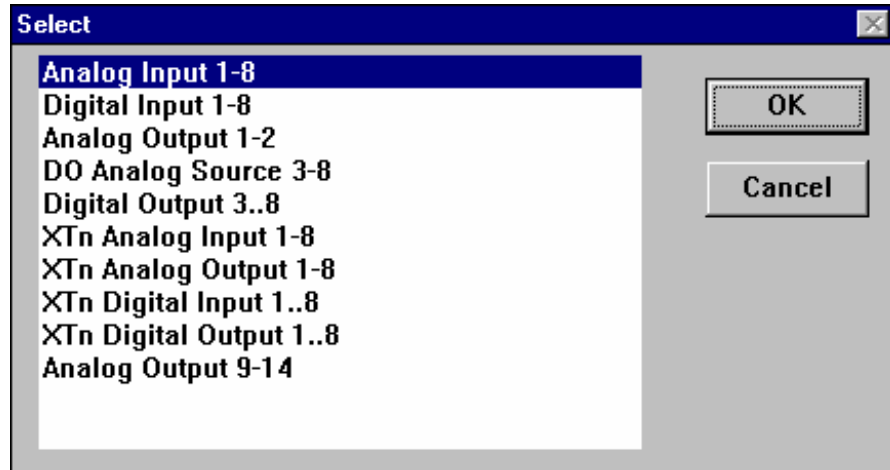

Figure 7-5: Select Subcategory Dialog Box
5. Highlight a category and click OK. A Select subcategory dialog box appears (Figure 7-5).